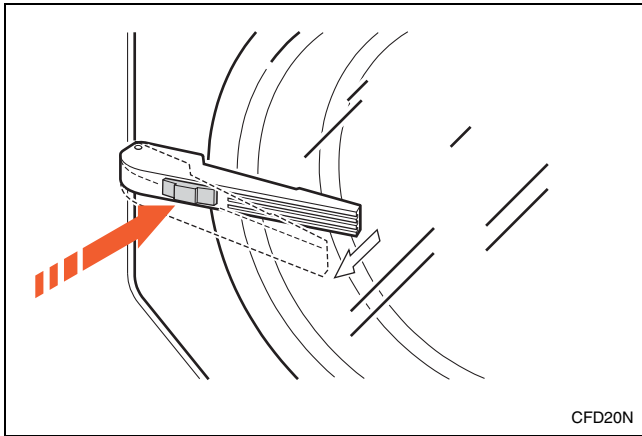

Figure 7
2. Push black button and pull door handle away from machine to open door. Refer to *Figure 7*.